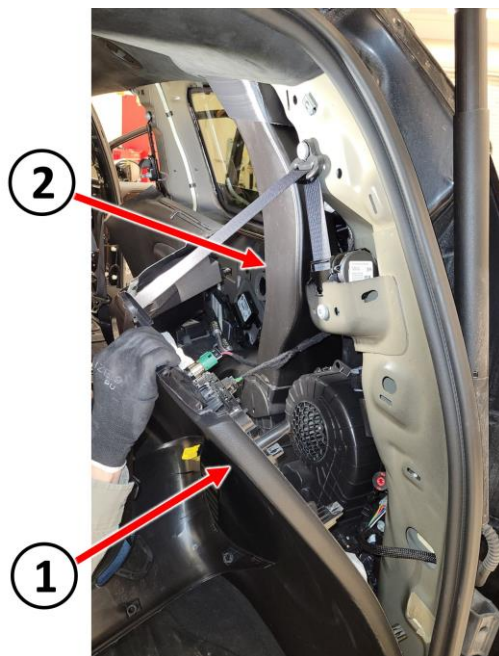

Figure 14 – Quarter Panel Trim
- 34. Using a trim stick or equivalent, starting at the top, release the fasteners at the rear edge of the quarter trim panel (Figure 14).
- 35. Pull straight away at the upper rear corner of the quarter trim panel to access the ceiling distribution duct (Figure 14).